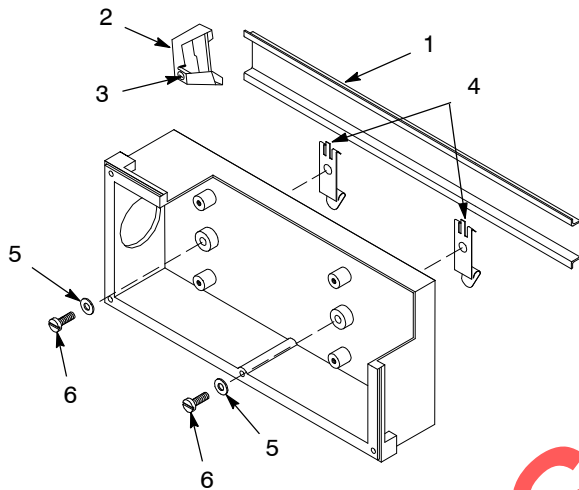

Figure 5 Horizontal DIN Rail Mounting
1. See Figure 5. Make sure the DIN rail (1) is at least 229-mm (9-in.) long.
2. Install an end bracket (2) on the DIN rail. Tighten the stop screw (3) securely.
3. Secure the clips (4) to the enclosure with the screws (6) and washers (5). Screws, washers, and clips are included with the controller.